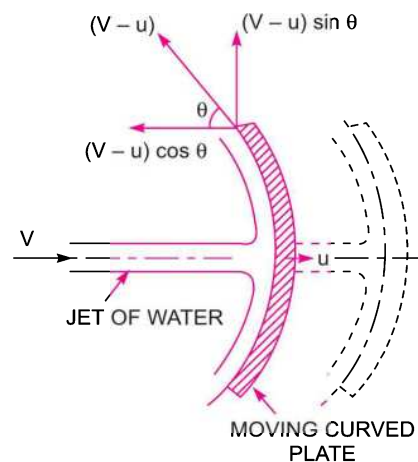

Fig. 17.12 Jet striking a curved moving plate.
**17.4.3 Force on the Curved Plate when the Plate is Moving in the Direction of Jet.** Let a jet of water strikes a curved plate at the centre of the plate which is moving with a uniform velocity in the direction of the jet as shown in Fig. 17.12.